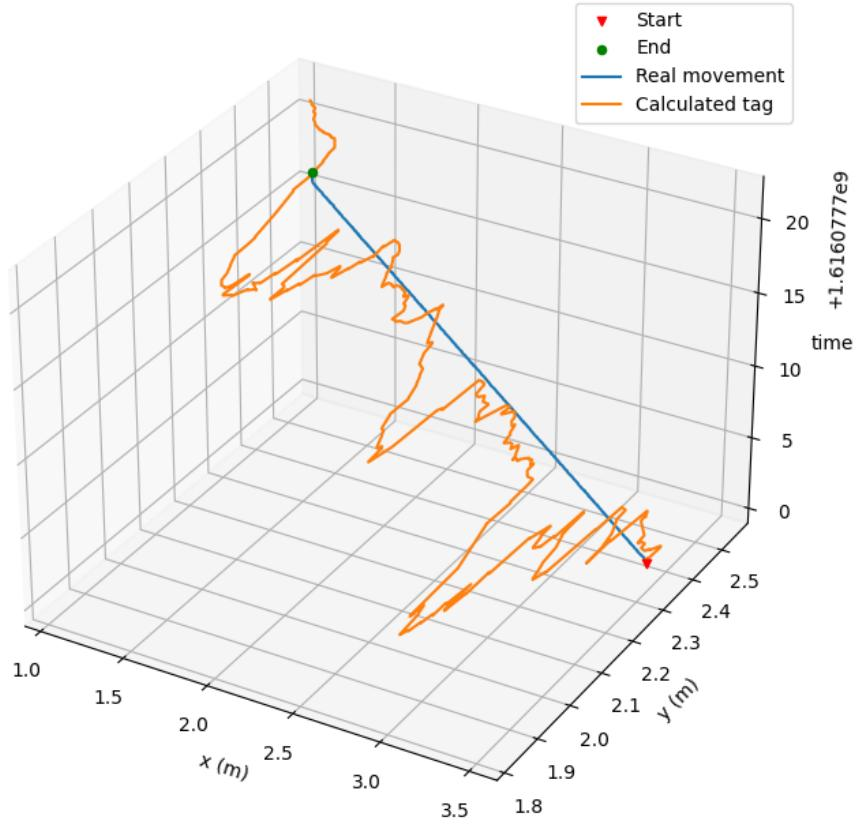
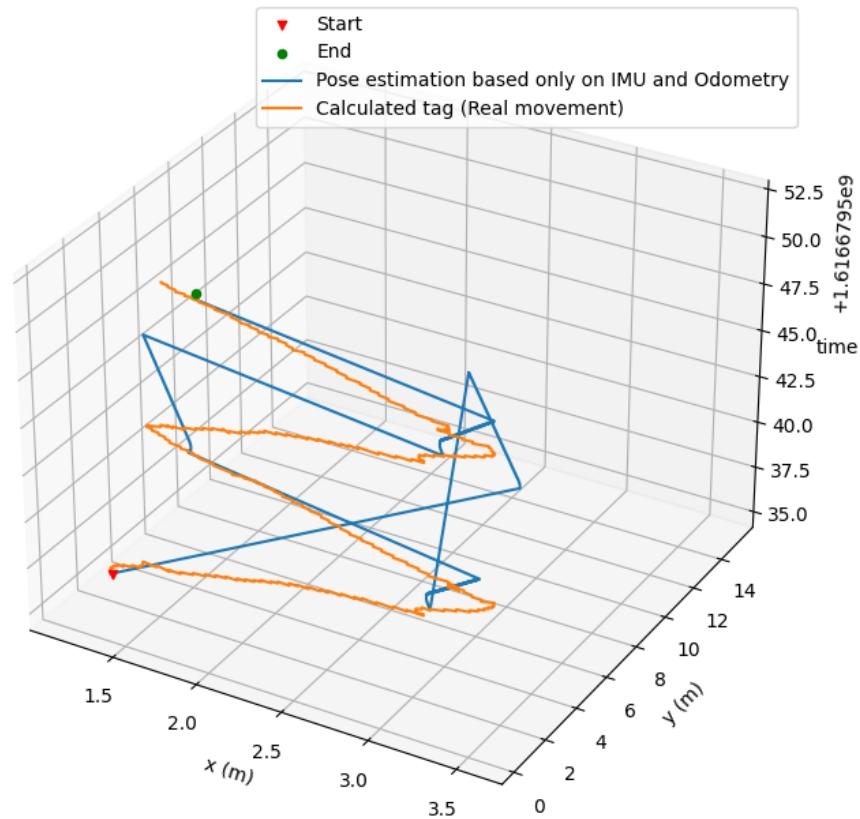
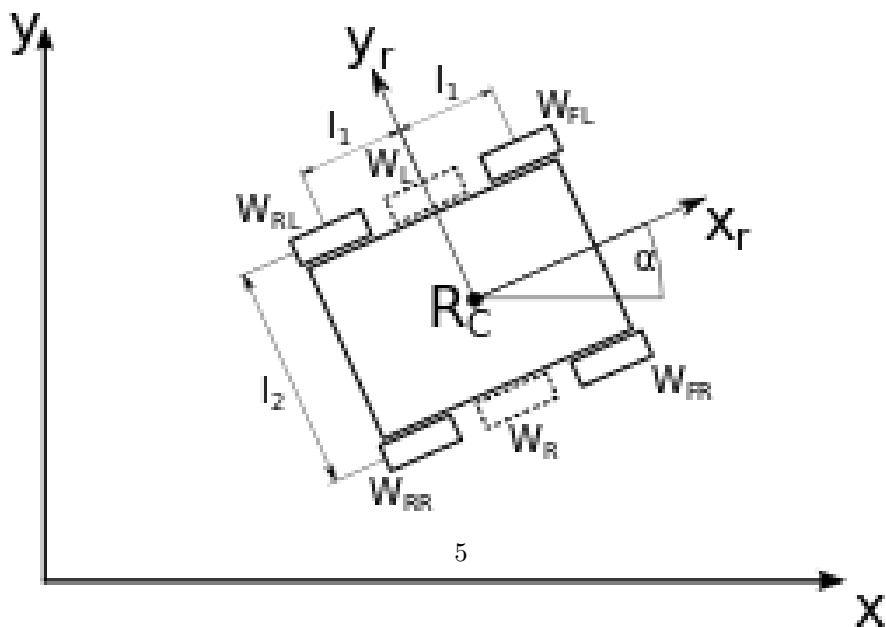
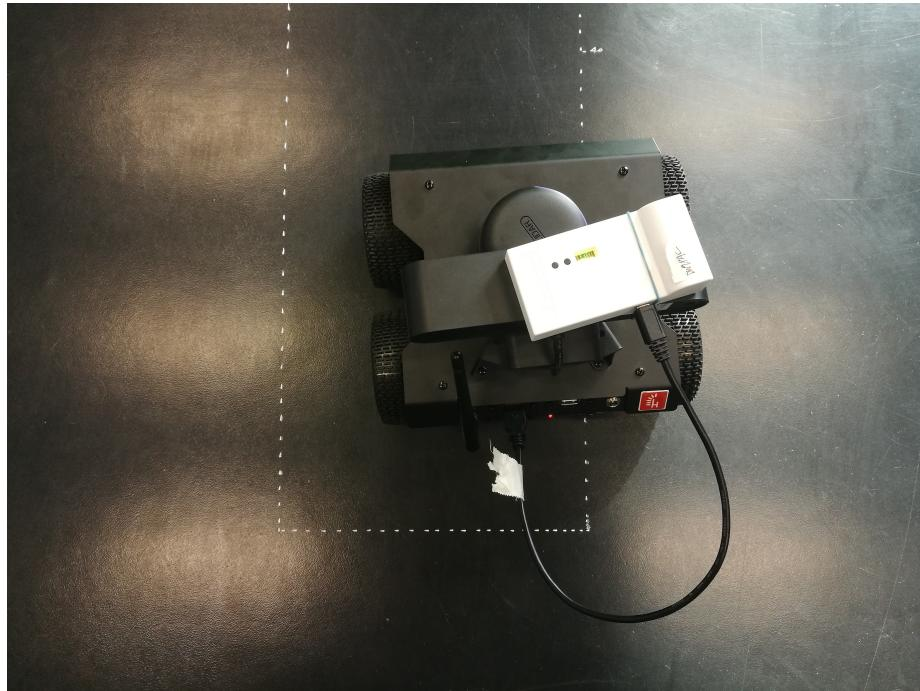

Figure 2: Demonstration of running process of the robot in 3D
Figure 3: Round movement illustration
Figure 4: Robot Scheme¹
Figure 5: The actual stop position after round movement
Another test was also conducted and data was collected in *poseWithTime.csv* and was 3D plotted through *3Dplot.py*, as shown in figure 2:
- 1.2. move the robot back and forth twice with 2 m for every single movement, which makes the robot travel a total distance of 8 m, as shown in figure 3 and the error was measured manually: the robot should come back to (0, 0) where it originally started, but according to figure 4 the real position was at around (0.24, -0.075) (unit: meter), as shown in figure 5.
Compare figure 2 with figure 3 we can know: within a short movement, e.g. 2m, EKF based on only IMU and odometry can be quite accurate. However, as the distance grows, like 8m in total as shown in figure 3, UWB begins to play a vital role, through which we can also infer our pose estimation algorithm should heavily rely on *UWB*.